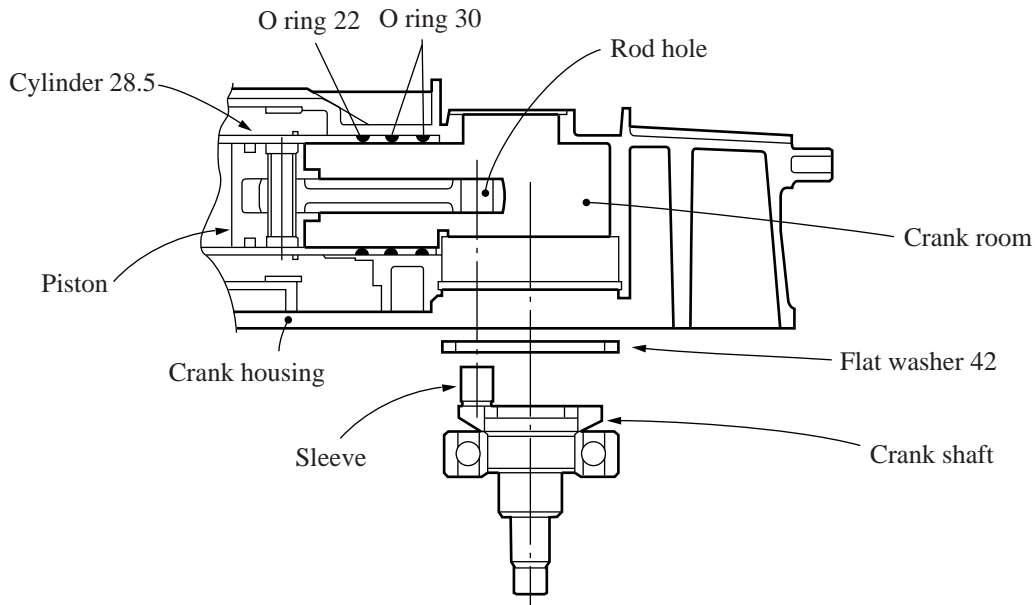

Figure 13
8)Assembling the piston rod and crank shaft(See the figure 13.)